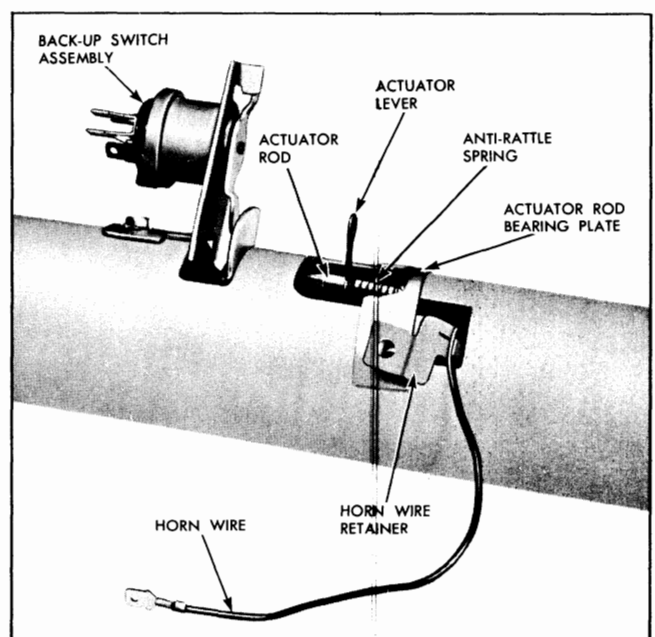

Fig. 9-15 Location of Actuator Lever
6. Hold actuator rod anti-rattle coil spring and bearing plate and remove hairpin type spring actuator lever from actuator rod (Fig. 9-15).